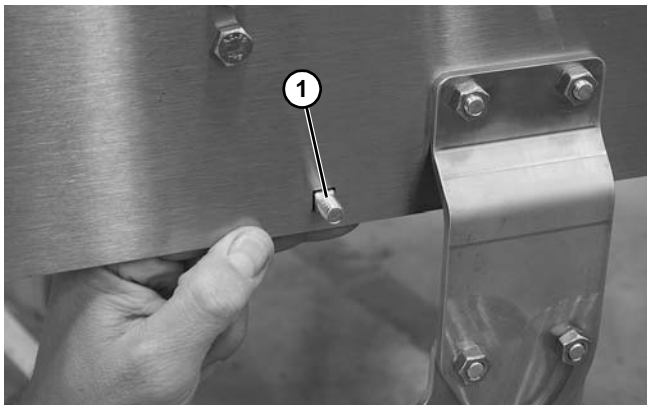

Figure 26
1. Install carriage bolt (Figure 26, item 1) through frame rail.